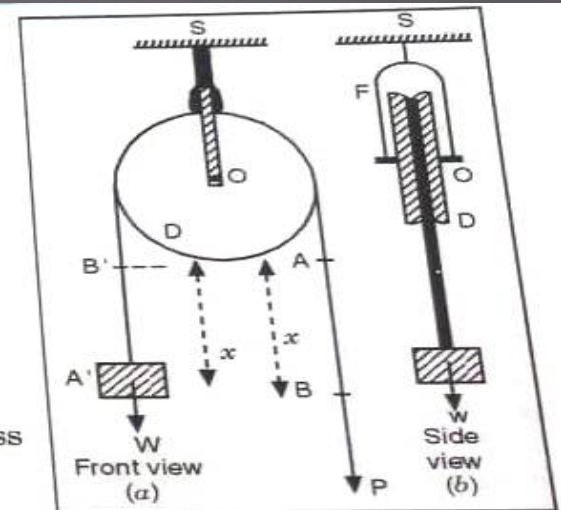

Fig. 1(d).18 Single fixed pulley.
**2. A single movable pulley.** Case (i) If effort is applied in upward direction. A single movable pulley  $P$  is supported by a string whose one end is fixed to a rigid support  $S$  while effort is applied at the other end (fig. 1(d).19). The load  $W$  is attached to the pulley  $P$ . Let the free end of the string be pulled from  $A$  to  $B$  through a distance  $x$ . This length is derived from two segments of the strings on either side of pulley. Thus, the pulley and hence the load  $W$  gets raised upward from  $A'$  to  $B'$  through a distance  $x/2$ .